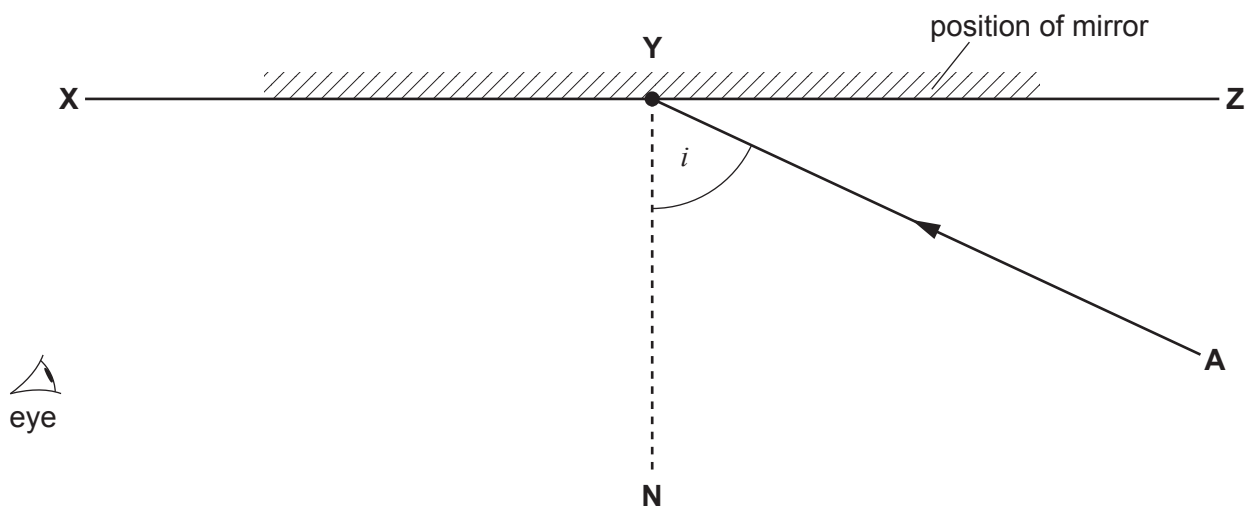

Fig. 3.1
(a) Fig. 3.1 shows a horizontal line **XZ**.
The angle of incidence i is the angle between line **AY** and the normal, as shown in Fig. 3.1.
Measure the angle of incidence i in Fig. 3.1.
- Place the pinboard under page 12 of the question paper (single page only) so that Fig. 3.1 is over the pinboard and facing upwards.
- Put the mirror along line **XZ** with the reflecting face of the mirror facing letter **N** on Fig. 3.1.
(i) Label the positions of pins P_1 and P_2 on Fig. 3.1. [1]
- Look into the mirror from the position of the eye shown in Fig. 3.1.
Label the positions of pins P_3 and P_4 on Fig. 3.1. [1]